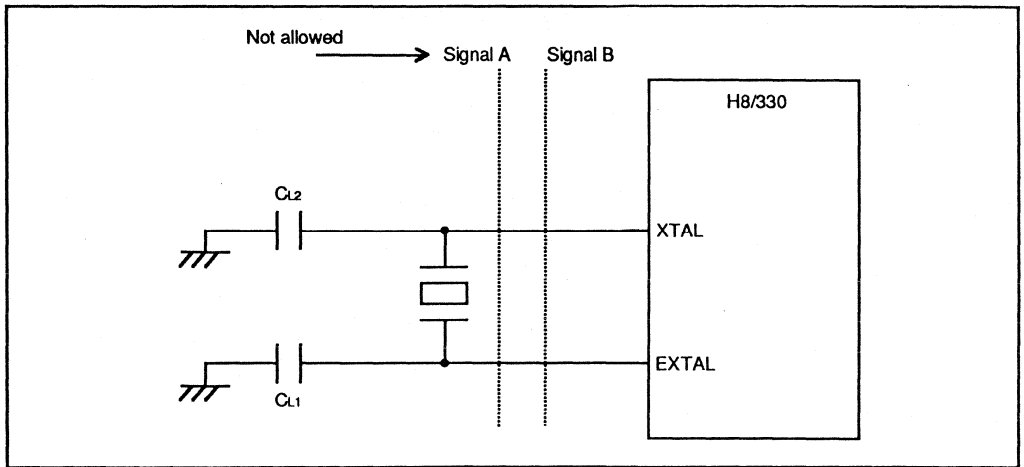

Figure 16-4. Notes on Board Design around External Crystal
③ **Note on Board Design:** When an external crystal is connected, other signal lines should be kept away from the crystal circuit to prevent induction from interfering with correct oscillation. See Figure 16-4. The crystal and its load capacitors should be placed as close as possible to the XTAL and EXTAL pins.